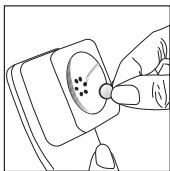

Figure 1
2. Hold the magnet near the “listening end” of your telephone and release it (Figure 1). The magnet will flip to the appropriate side and seek the optimal position on the telephone ear piece.